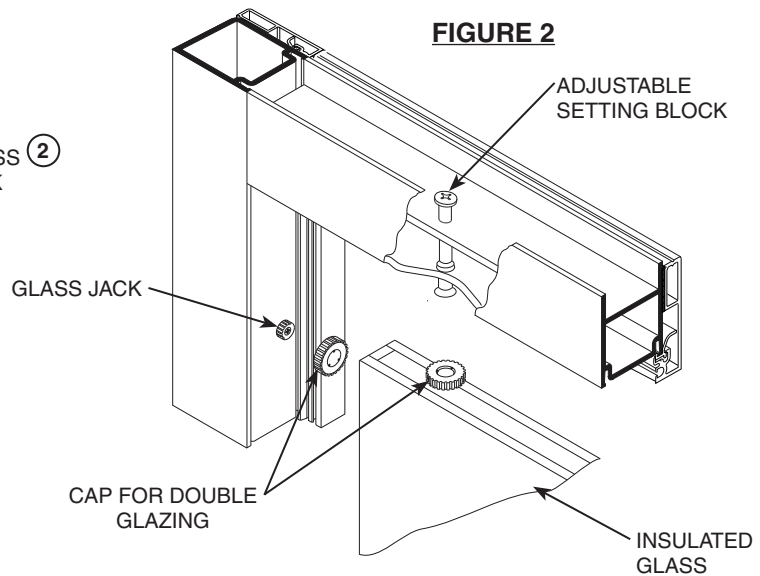

FIGURE 2
4. Using thumb or tool, rotate glass jacks counterclockwise to set against glass (Figure 2).